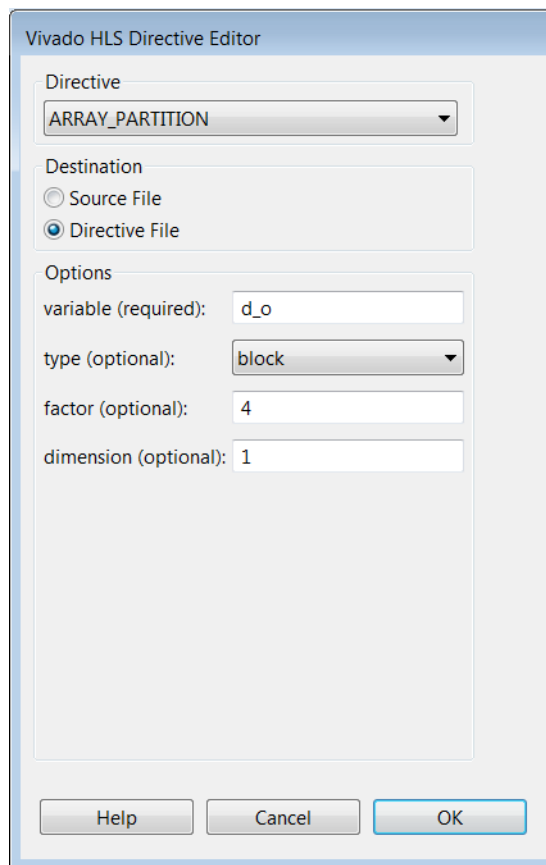

Figure 4-21: Directive Editor for Partitioning Array d\_o
- d. With the Vivado HLS Directive Editor as shown in Figure 4-21, click **OK**.